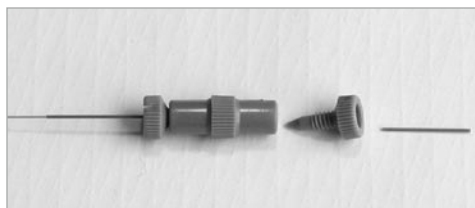

Figure 4 Union, compression fitting, and MicroTight® sleeve cut to 14 mm
- 4) Carefully trim a new green MicroTight sleeve to a length of approximately 14 mm, as shown in Figure 4. The shorter sleeve will allow the coating on the PicoTip to contact the conductive elastomer inside the CTM.